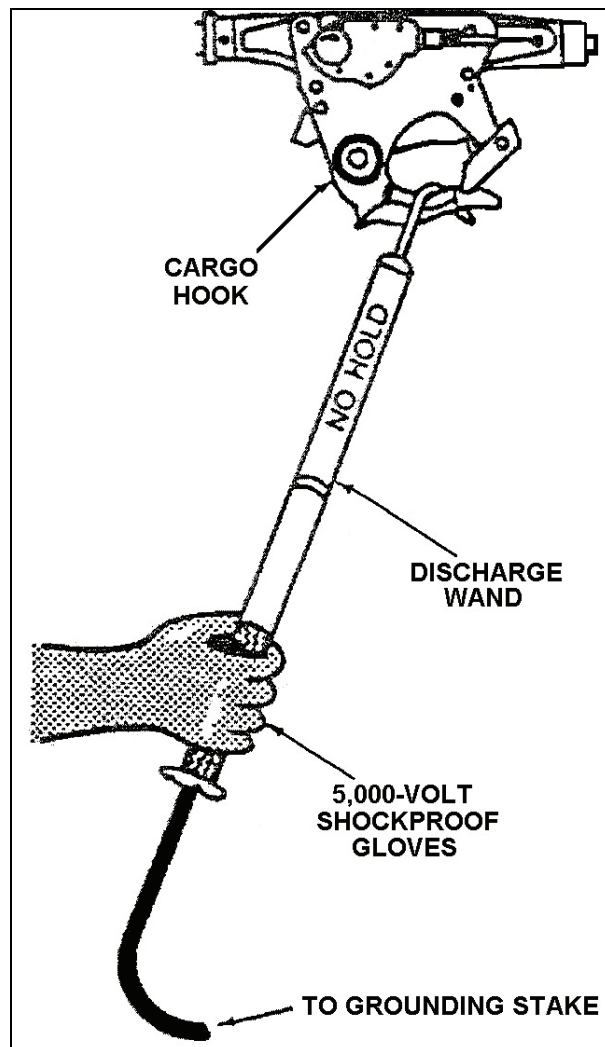

Figure 3-1. Connecting the Static Discharge Wand to the Cargo Hookup
- a. Connect the static discharge wand to the cargo hookup (see Figure 3-1).